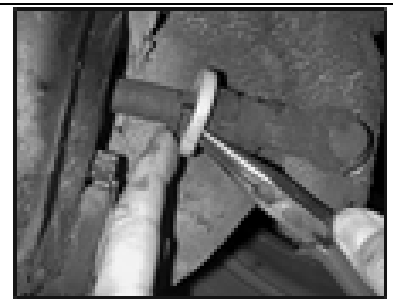

Fig. 4
Step 7. Without disturbing the position of the indicator, secure the BrakeSentry indicator to the pushrod by inserting needle nose pliers into the two holes provided at either side of the split parting. Squeeze together and insert the retaining clip through the slits (Fig. 4) With clip fully inserted, bend the tabs toward each other and into the recessed area of the indicator. (Fig.5)